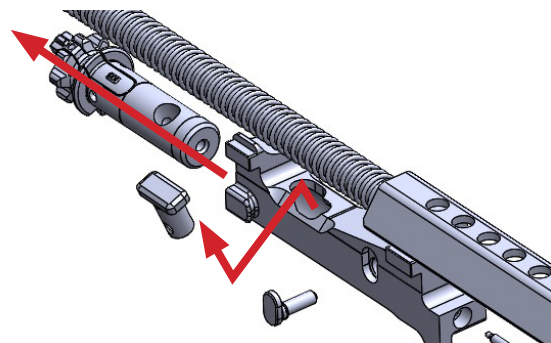

Fig. b-2
3. Press and rotate the bolt head to the rear, then rotate the bolt guide pin 90-degrees to remove; pull it up and out. (Fig. b-2)
4. Pull the bolt head out from the bolt carrier. (Fig. b-2)